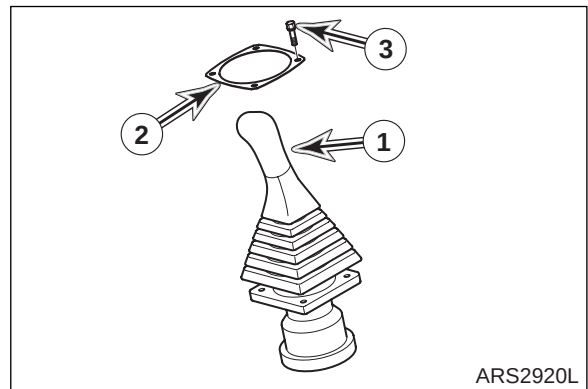

Figure 7
15. Remove four bolts (3, Figure 7) and cover (2), and pull remote control valve RH (1) out.
16. Tag and disconnect hoses from remote control valve RH (1, Figure 7). Plug and cap hoses and ports to prevent contamination from entering hydraulic system or component.